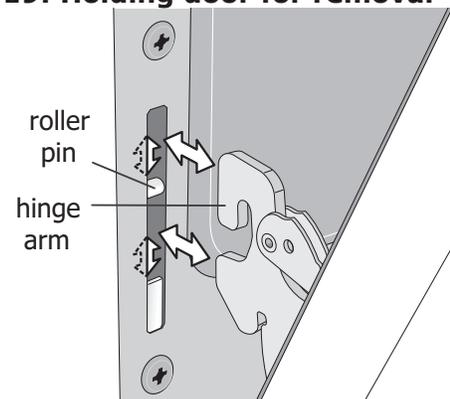

Figure 20: Replacement and location of hinge arm and roller pin
5. Lift the oven door hinge arms over the roller pins located on each side of the oven frame (Figure 20)
2. Holding the oven door at the same angle as the removal position, seat the hook of the hinge arm over the roller pins located on each side of the oven door frame (See Figure 20). The hook of the hinge arms must be fully seated onto the roller pins.